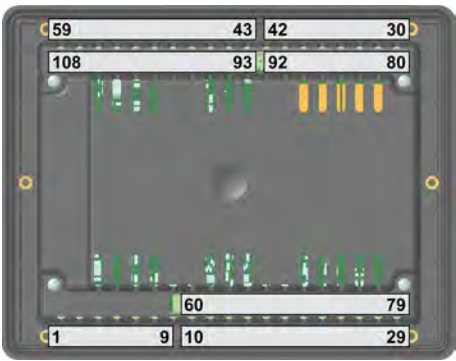

Fig. 16: Terminal allocation
- easYgen-2500 - shown in Fig. 16